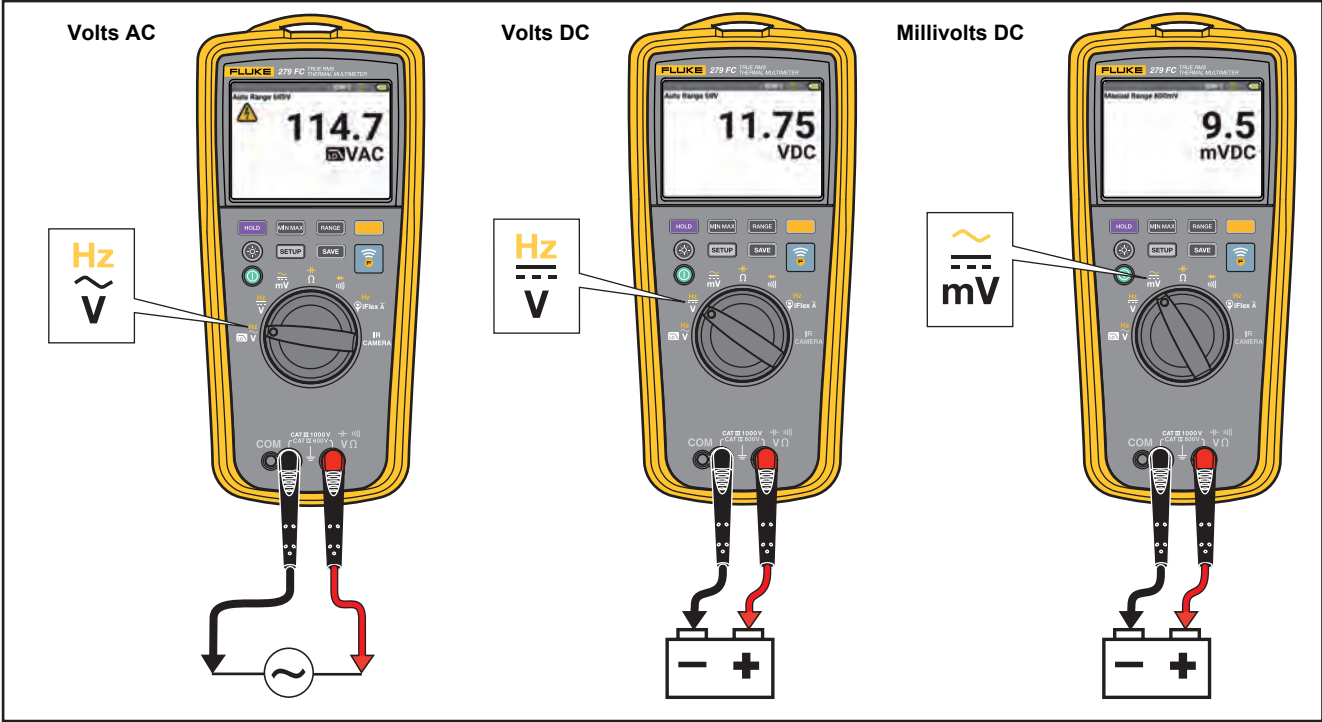

Figure 4. AC and DC Voltage Measurements
- AC and DC Voltage Measurements. See Figure 4.
1. Turn the rotary dial to  $\approx$ . See Figure 4.